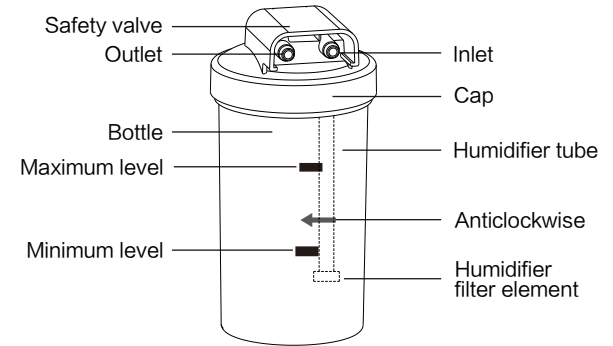

Figure 4: Humidifier Components
1. Unscrew the bottle from the humidifier anticlockwise. Fill the bottle with pure water (or distilled water) to the level between MAXIMUM and MINIMUM. Do not fill humidifier bottle over MAXIMUM level. (Figure 4)